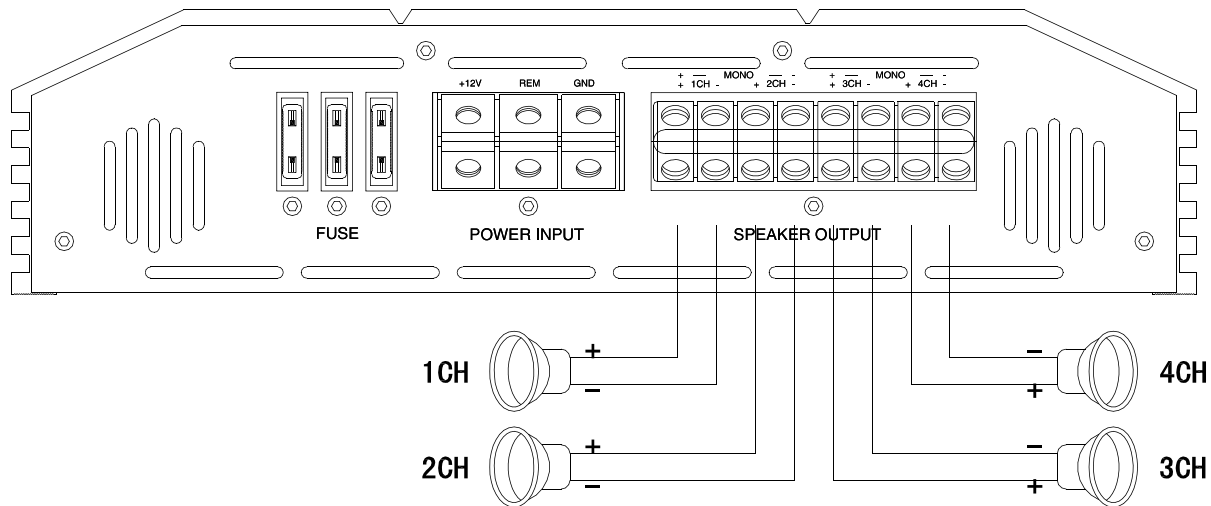

Fig.4 Speaker Output Connection-4CH Mode
Above Fig.4 shows 4-speaker connections. In this case, it is better to use 4ohms speaker to prevent any damage.
- The amplifier can be used in the 4CH and 2CH mode as shown in Fig.4, Fig.5.